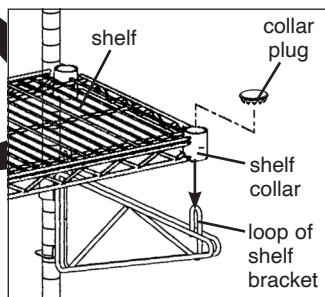

figure 6
- Lay shelf\* on top of wall brackets, and cover shelf collar openings with collar plugs (see figure 6).
- Lay each shelf\* on top of wall brackets, and cover shelf collar openings with collar plugs (see figure 6).